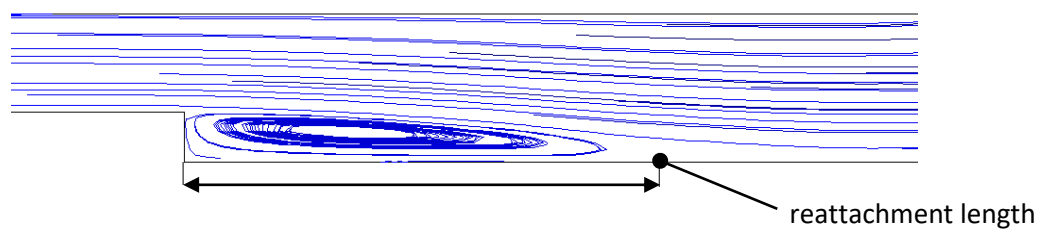

Fig. 4 Streamlines and reattachment point.
16. Determine the reattachment length (fig. 4) by plotting the x-wall shear stress along the bottom wall. The reattachment length corresponds to the x distance at which the shear stress changes sign from negative to positive. **Results/Plots/XY Plot/Wall Fluxes/X Wall Shear Stress**. Select iso-surface of $y=0$, position on x axis and **Plot Direction** to X=1 Y=0